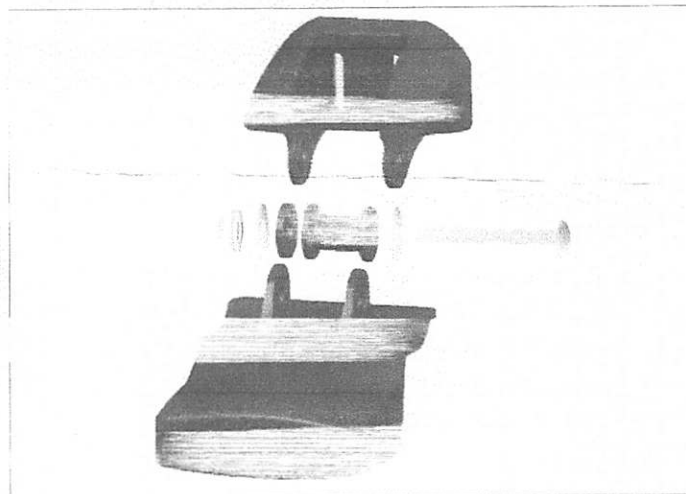

Figure 1
4. Place the remaining 5mm Flat Washer on the exposed end and install the 10-32 Lock Nut finger tight (see Figure 1). The transducer will be tightened further after installation on boat.